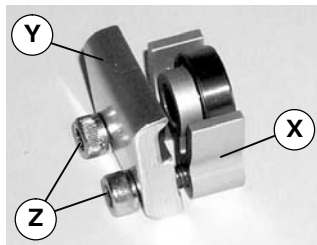

Figure 13
2. Loosely attach clip (Y of Figure 13) on guard (X) with two screws (Z). Do not tighten screws.